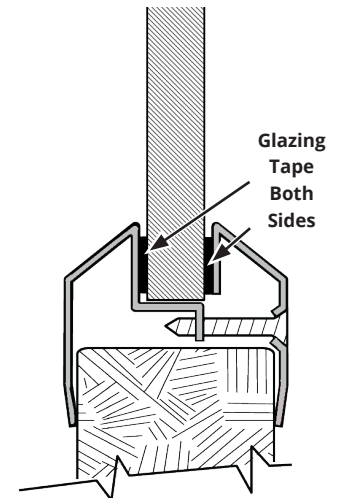

FIG. 1
- a.) UL 10B, UL10C - apply 1/16" glazing tape (or other required) to glass on both sides. FIG 1.